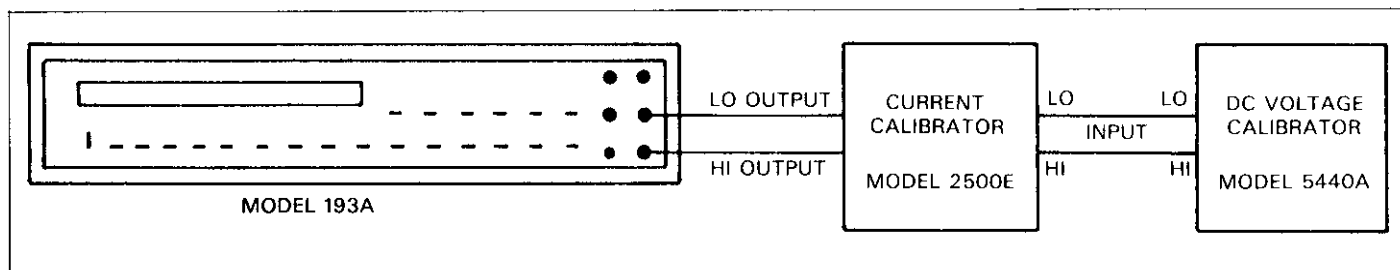

Figure 4-6. Connections for DC Current Verification
2. Connect the DC current calibration source to the Model 193A as shown in Figure 4-6.